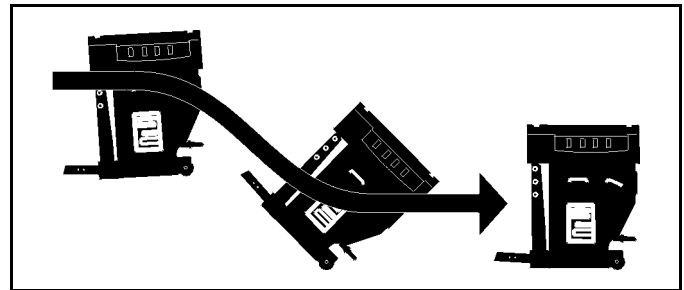

Figure 1-2
5. Slide spreader from hitch receiver and carefully place on floor. (See Figure 1-2)